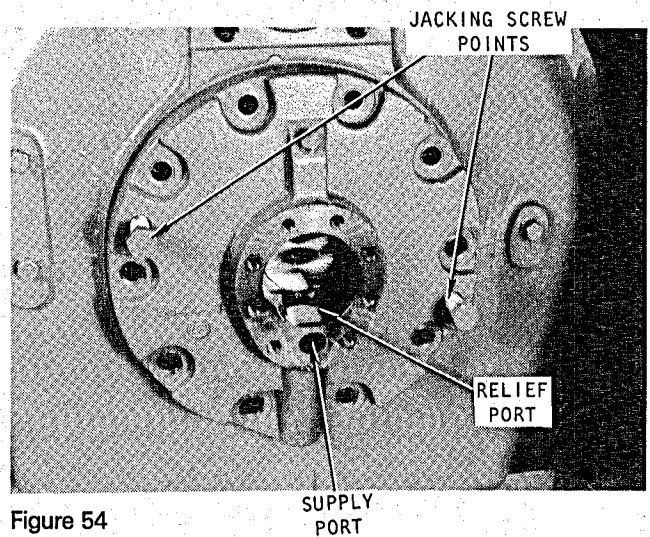

Figure 54
2. To break the gasket seal, use two cover screws in the jack-screw holes provided in the bearing head (Figure 54).